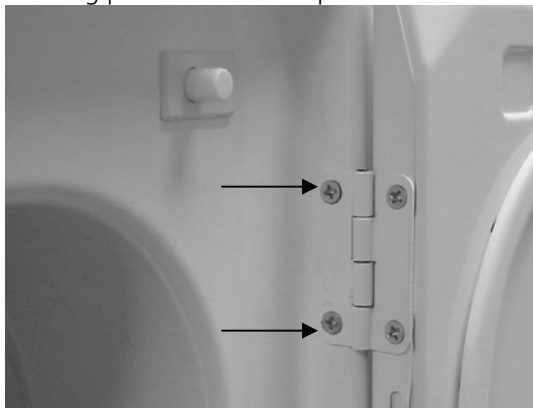

Figure 2
2. Begin removing the four (4) screws that attach the hinge to the front panel. (Figure 2) For best results, start by only removing one screw per hinge. Then only loosen the two remaining screws while firmly holding door to prevent damage to hinge, front panel or door. After the remaining screws are loosened, continue to remove all.